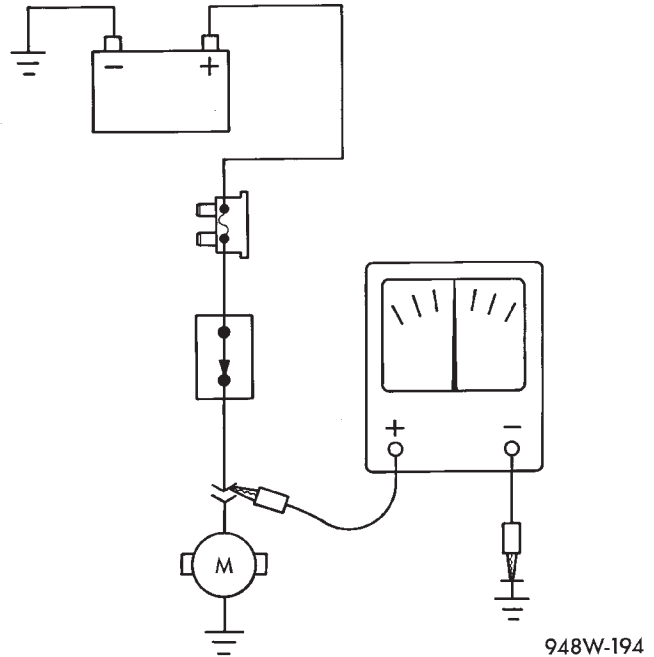

Fig. 6 Testing for Voltage Potential
- (1) Connect the ground lead of a voltmeter to a known good ground (Fig. 6).
- (2) Connect the other lead of the voltmeter to the selected test point. The vehicle ignition may need to be turned ON to check voltage. Refer to the appropriate test procedure.